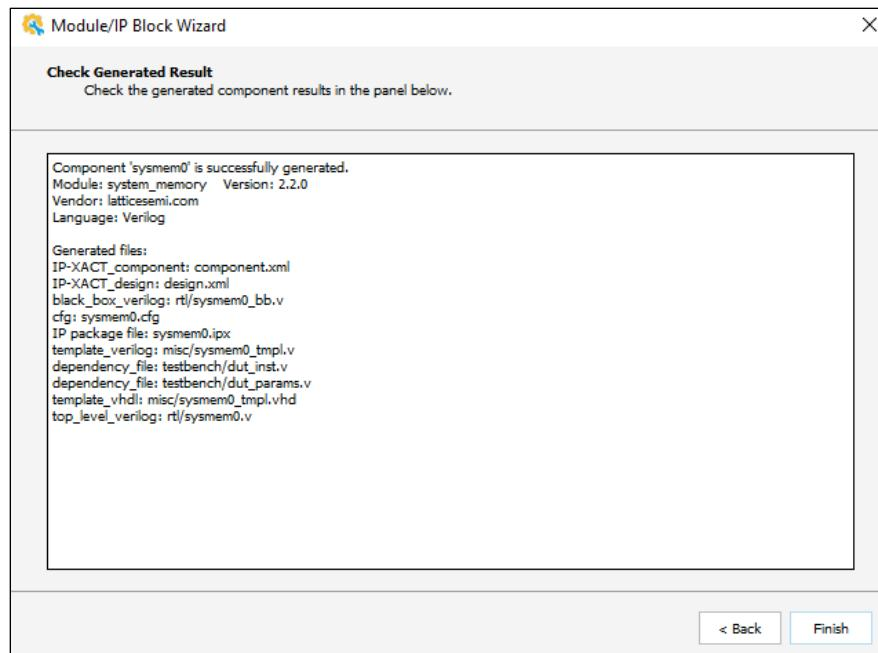

Figure 8.45. Click Finish
9. Wait until the processing is complete and click **Finish** as shown in Figure 8.45.